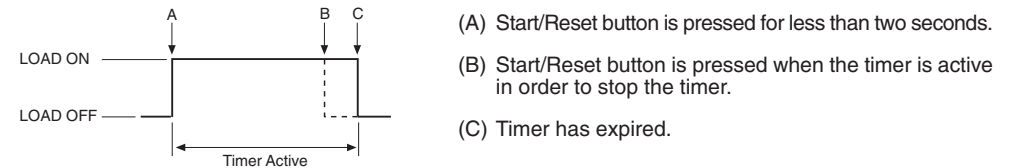

Figure 1: On Delay operation diagram
As shown in Figure 1 the load is initially OFF until the Start/Reset button is pressed for less than two seconds (A). Subsequently, the timer starts and the load is switched ON. The load will switch OFF when the Start/Reset button is pressed again (B) or the timer expires (C).